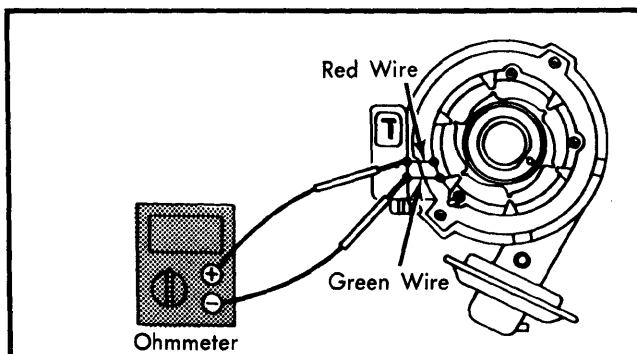

Fig. 11 Ohmmeter Hookup for Pick-Up Coil Resistance Check
1) For this test, engine should be at operating temperature. Turn ignition switch "OFF". Connect an ohmmeter set to $\times 100$ scale to pick-up coil terminals (red and green wires). See Fig. 11.